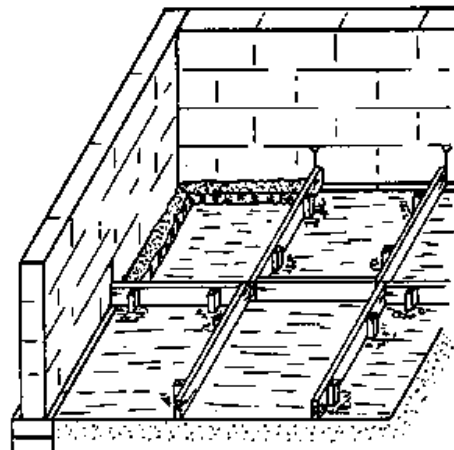
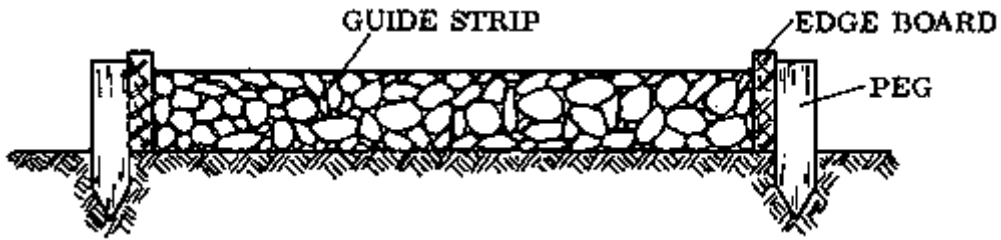

Fig. 5
Fig. 7
h. Pour the guide strips to the height of the base layer (approximately 8 cm) (Fig. 5). Level the tops of the guide strips (Fig. 7).